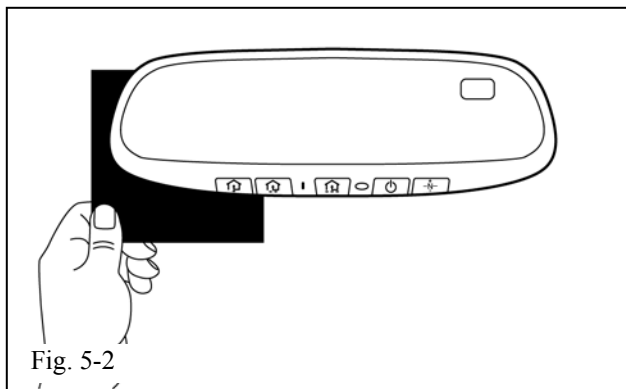

Fig. 5-2
- (1) To make sure the auto-dimming feature is on, verify that the LED indicator light is on. If it is not on, push the "On/Off" button to turn the LED on.
- (2) Cover the forward-looking light sensor located on the back of the mirror with a dark cloth or towel. (Fig. 5-2)